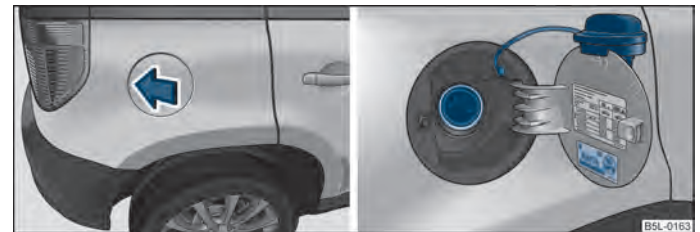

Fig. 150 Right rear side of the vehicle: Open fuel filler flap/fuel filler flap with cap unscrewed
Your vehicle can only be operated with **unleaded petrol**, which complies with the standard **EN 228** (In Germany: standard **DIN 51626 - 1** or **E10** for unleaded fuel with octane rating **95 RON** and **91 RON** or **DIN 51626 - 2** or **E5** for unleaded fuel with octane rating **95 RON** and **98 RON**). On the inside of the fuel filler flap, you will find the information regarding the RON required by your engine ⇒ fig. 150 - right.
- Press in the middle of the left area of the fuel filler flap in direction of arrow ① ⇒ fig. 150.
- Unscrew the fuel filler cap anti-clockwise and place the fuel filler cap from above on the fuel filler flap ⇒ fig. 150 - right.